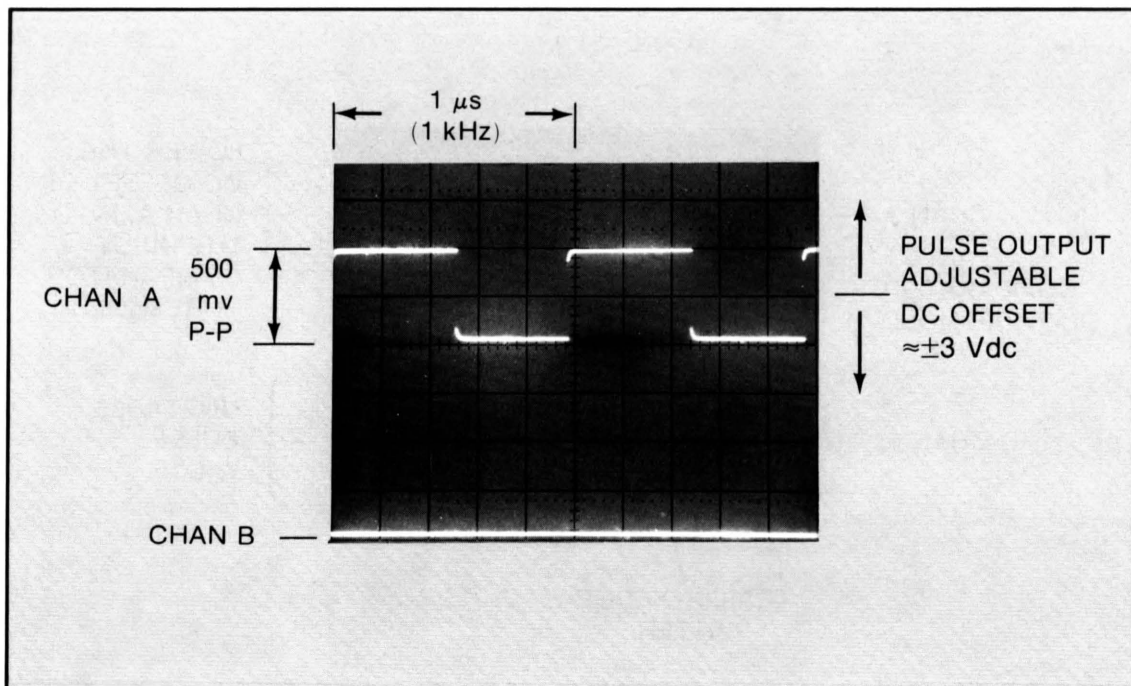

Figure 5-2. Pulse Generator Output
- e. Set the pulse generator to output a squarewave, ≈ 500 mv p-p, at a 1 kHz rate. Adjust the leading and trailing edge controls for the fastest possible transition times, i.e. the squarest squarewave. Set the pulse generator output dc offset to the adjustable mode. See Figure 5-2. If an HP 8007B is available, set the controls as follows: